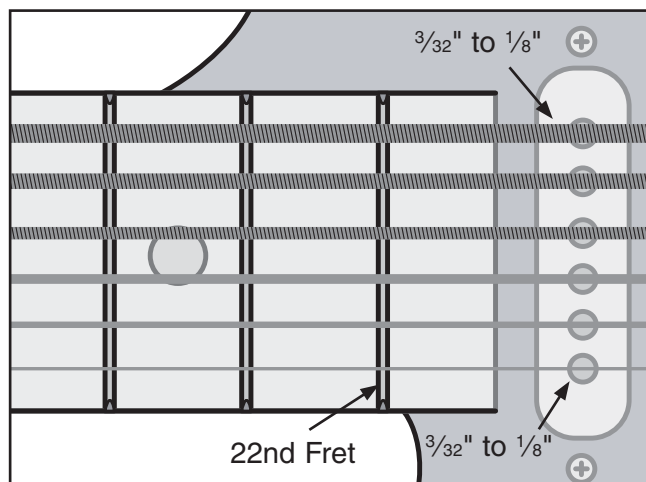

Figure 36. Correct string heights over the pick up while the strings are fretted on the 22nd fret.
1. Measure the height of the 1st and 6th strings at the pick up while the strings are “fretted” at the 22nd fret (see **Figure 36**).